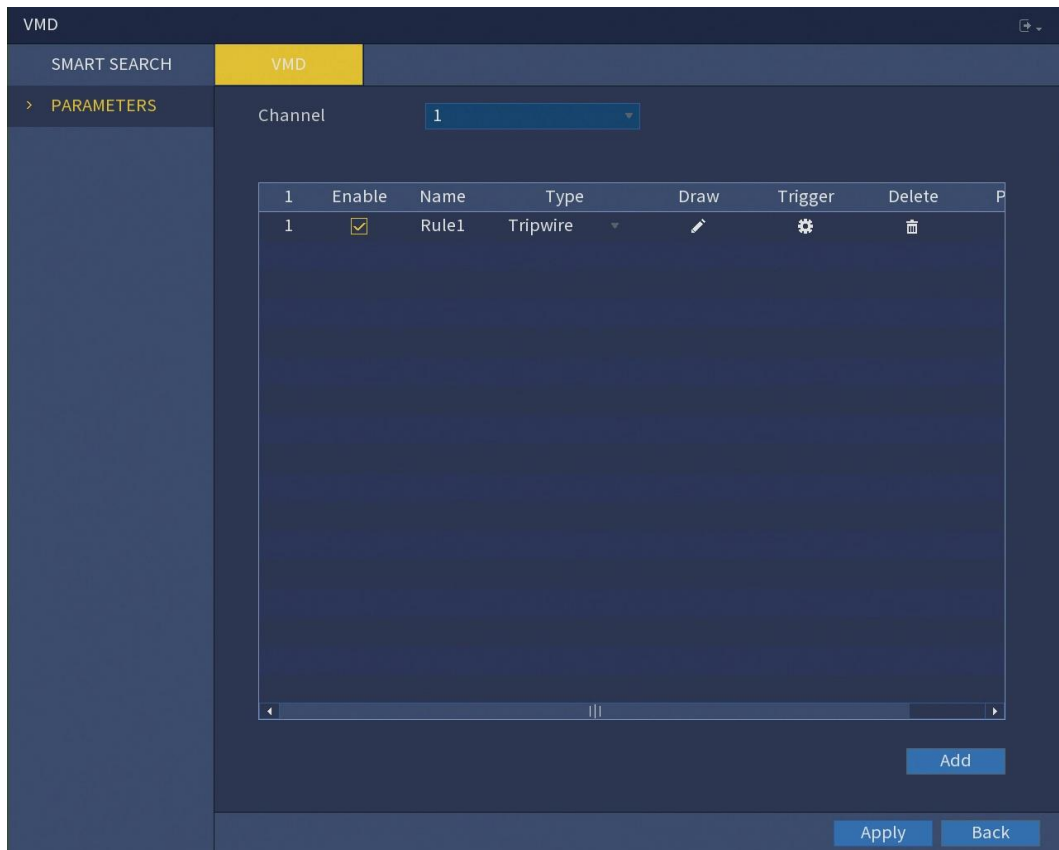

Figure 5-94
1. On the rule line that you added, in the **Type** list, select **Tripwire**. See Figure 5-94.